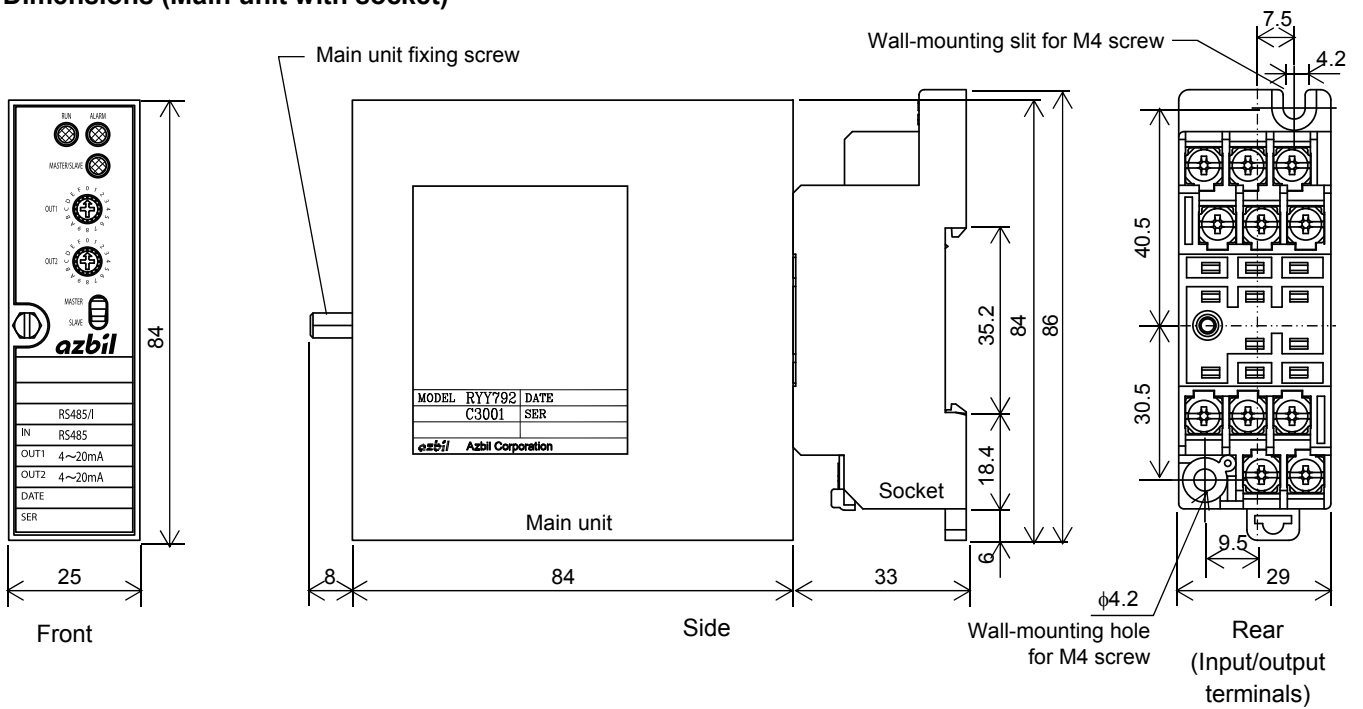
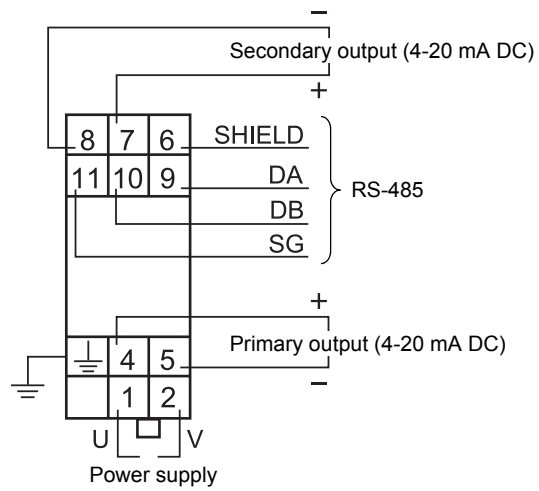

Figure 2. Dimensions (mm): Main unit with socket
Figure 3. Wiring diagram
Dimensions	Refer to Fig. 2.
Accessory	Dedicated socket (Refer to Fig. 2.)
- 1) Mount the socket on a panel with a DIN rail or with the screws. To mount the socket with the screws, refer to Fig. 2. When you mount the socket, be careful with the orientation so that the socket is not mounted upside down. M4 × 15 screws are necessary to fix the socket.
Fig. 3 is the wiring diagram of the terminals 1 to 11. Refer to Figs. 2 and 3 to connect the wires.